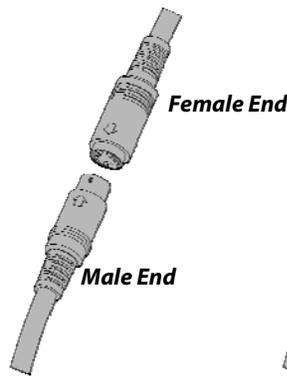

**Figure 4**
3. Insert a 8mm x 38mm Shoulder Bolt from the inside through the aligned holes (**Figure 4**), attach a 8mm Lock Nut and repeat for other side. Tighten the Lock Nuts using the small Hexagonal end of the Wrench and a Phillips Screwdriver.
5. Unsnap the Handlebar Cable from the Main Cable Holder (**Figure 4**).